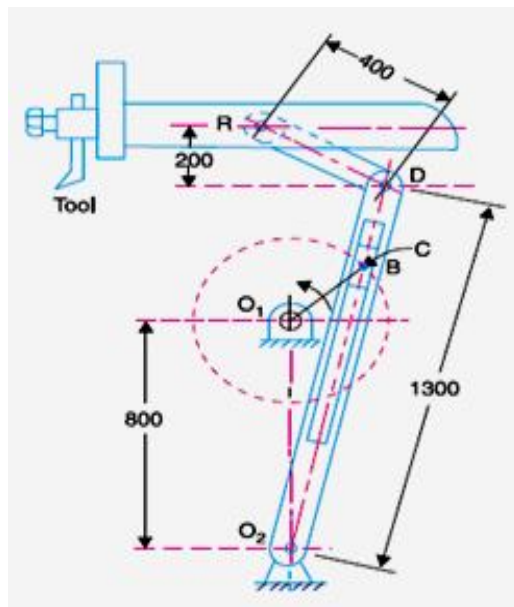

Fig 2: Quick return mechanism
- Q.4** A) A quick return mechanism of the crank and slotted lever type shaping machine is shown in Fig 2. (07)